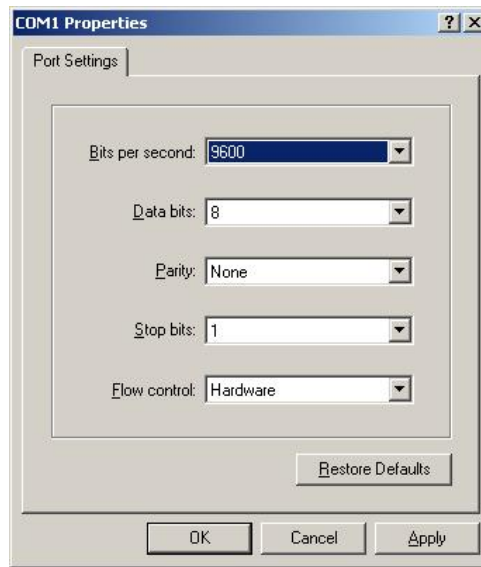

Figure 2-65: HyperTerminal COM Port Settings
6. Under *Port Settings*, select the values for each setting as shown in Figure 2-65.